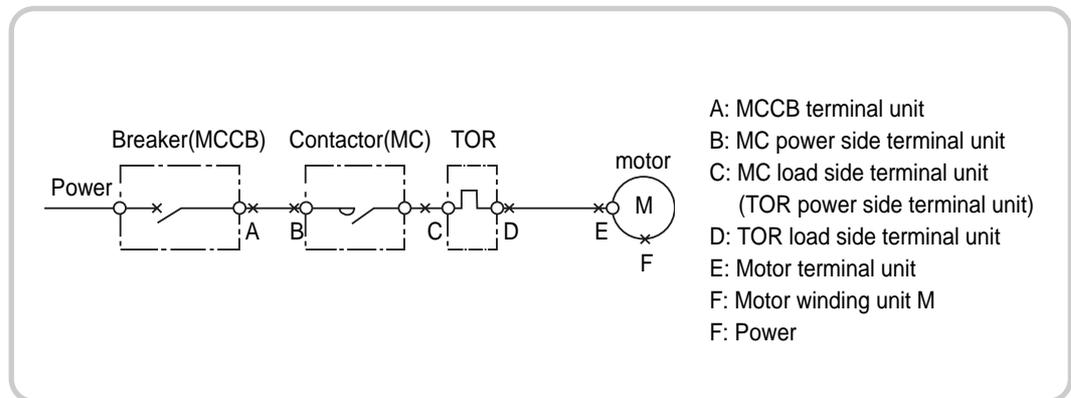

Fig. 70. Branchcircuit's short circuit points
In an MCCB which has a motor with a load and branch circuit with a magnetic switch, short circuit points related with this breaker are the six spots A through F in fig. 70 and since all other points have almost no possibility of a short circuit fault, they are not considered. Therefore short circuit faults on each point are investigated as below. At first, KSC and IEC standards' protection cooperation type as protection cooperation degree (p233) was introduced but if there is short circuit fault on C or D point of fig. 70, the short circuit current is big and permitted over current of Metasol series magnetic contactor is as shown on table 5. So generally protection cooperation type will be Type "1" and it is difficult to set it as Type "2". But when the short circuit point is on E or F of fig. 70, current decrease by wiring's impedance is quite big and the calculated result (higher impedance from D point is 0.) for wire length, 50m and 100m between D and E of fig. 70 is value shown on table 6. In fact, higher impedance is also added from D point so if there is short circuit to E point, the current which flows to magnetic switch gets smaller than the value on table 5. In this case, there is big possibility of having Type "2" as the cooperation type. If there is fault on F point, current gets smaller so the condition is better than E point.
Based on Metasol series magnetic contactor's permitted over current (the value in the case of no current limit of short circuit current with MCCB breaking time as 10ms), the calculated result of wire length which is needed to make protection cooperation Type "2" possible, is stated on table 5. This value is also calculated with higher impedance from D point as 0, so actual wire length will become a little shorter than this. Even when the length of wire is short, it is relatively easy to make possible up to certain length by methods as (1) enlarge magnetic contactor's size, (2) use MCCB with current limit effect, etc. over current resistant quantity is stated on table 4 but except small quantity rated heater, generally coordination Type "2" is relatively easily satisfied. In the case of a short circuit fault on A or B point of fig. 70, if the MCCB's breaking capacity is sufficient, there is no problem.
As investigated above, if each selection is correct, coordination of Metasol series MCCB and magnetic switch is relatively easily satisfies 1~8 details of coordination conditions (p195). But during the event of a disconnection fault, it becomes about type "2" of KSC and IEC standards coordination for short circuit on E or F point of Fig. 70 or type "1" for short circuit on C or D point. Depending on short circuit protection device, it is possible to have type "2" of coordination type even with short circuit fault of point C or D. But point C or D's short circuit occurs in magnetic contactor or TOR's terminal unit so it is impossible to avoid insulation deterioration between terminals and terminal's burnout. Eventually a magnetic switch needs to be exchanged so even with type "2" of coordination type, it should be regarded as having fewer advantages. So for coordination type during short circuit, type "2" is proper in the case of short circuit on E or F point and type "1" for short circuit on C or D point. If you interpret that 9th detail of coordination conditions (p195) is applied to the short circuit case on E or F point, as stated above, it can be said that combination of Metasol series MCCB and Metasol magnetic switch can be satisfied at certain level.